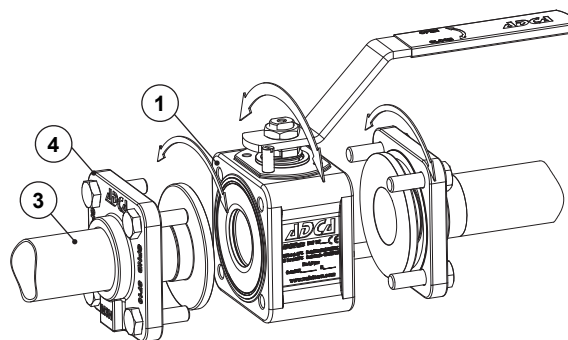

Fig. 2 - Tube weld ends with loose flanges.
- b. Remove the body bolts (19) and separate the valve body assembly from the flanges (4) and tube weld connection ends (3).
- d. Fit the tube weld connection ends (3) with the flanges (4) into the pipeline after protecting the end faces from splatters and proceed with the welding procedure. Note that the flanges don’t need to be aligned since they can later rotate freely to meet the required valve position – see Fig. 2.
- f. Fit the valve body assembly between the connection ends (3), join the flanges (4) with the valve body (1) and loosely tighten the body bolts (19) in place.
- h. Gradually tighten the body bolts (19) in a crisscross pattern until the recommended torques are achieved – see section 9.5 – Tightening torques.